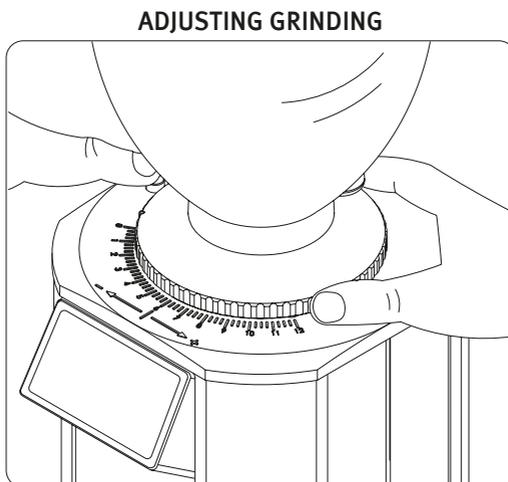

Figure. 2
- Adjust the grinding fineness at the optimal setting (*Fig. 2*).